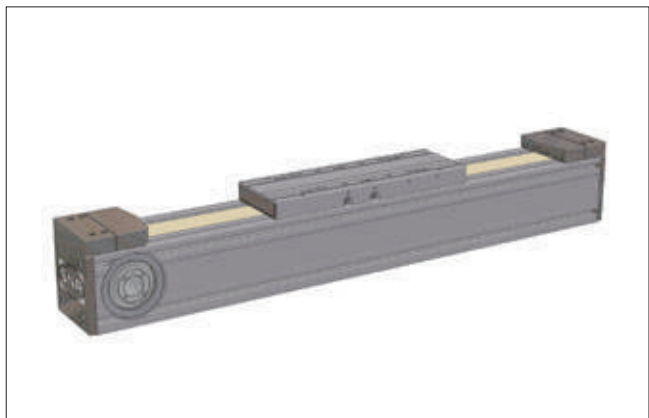

Figure 5.1 ____ AXC with toothed belt drive
- 3 drive versions – toothed belt drive, screw drive or toothed belt / Ω - drive (Figures 5.1 up to 5.3)